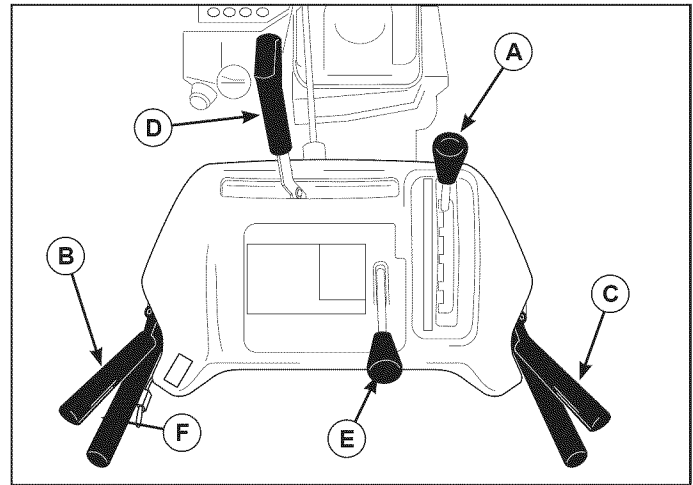
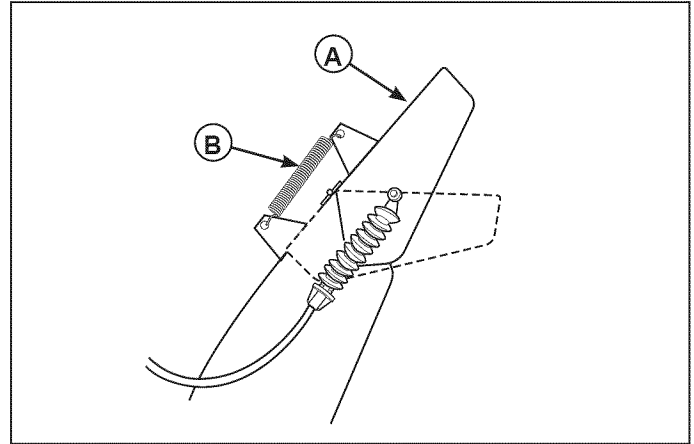

Figure 21. Controls (From Operator's Position)
Figure 22. Remote Deflector Control
7. Check the drive control (B, Figure 21), and auger control (C) for proper operation. If adjustment is required, see the service section for procedures.
8. Check the chute direction control (D, Figure 21) for proper operation. The discharge chute should rotate freely in both directions. See the service section for adjustment procedures and troubleshooting.
9. Check the chute deflector (E, Figure 21) for proper operation. The deflector should pivot freely up and down.
11. Check the speed selector (A, Figure 21) for smooth operation. The control must move freely into each speed position gate and remain in position when released. If the speed selector does not move freely into all forward and reverse speed positions, contact your local authorized dealer for assistance.
3. Fully press and hold the auger engage control (C, Figure 21) on the right-hand grip to begin auger rotation. Releasing the auger engage control will disengage the auger —**unless the Free-Hand™ Control has been activated (See Step 5 below).**
4. Fully press and hold the traction & Free-Hand™ Control lever (B, Figure 21) on the left-hand grip to engage the traction drive and begin moving the snowthrower. To disengage the traction drive, completely release the lever.
6. Select forward or reverse speeds as needed using the Speed Selector (A, Figure 21). Release both control levers before changing drive speeds.
Use the speed selector (A, Figure 21) to control the drive speed of the snowthrower. There are six forward speeds and two reverse speeds.
To change speeds, release the auger control lever (B, Figure 21), then move the speed selector to the desired setting. Fully depress the control levers to resume.
1. Push the remote deflector control (E, Figure 21) to the left to UNLOCK the control. Sliding the control forward will put the deflector to the maximum throwing position (A, Figure 22). Sliding the control backwards to decrease the throwing distance.